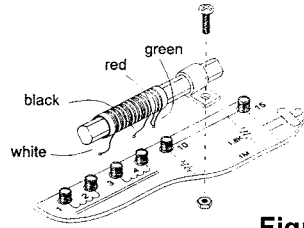

Figure 10
- Slip the white plastic Bracket over one end of the ferrite rod. (See Figure 10.)